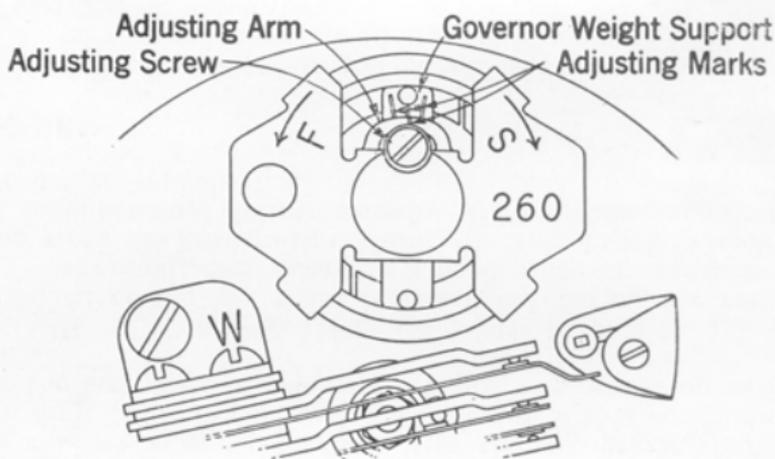

Fig. 1—Dial Governor with 360 Tool
6.03 To adjust the speed of 2-, 4-, and 5-type dials, place the 260 tool on the dial governor so as to hold the movable parts of the governor, as shown in Fig. 1.